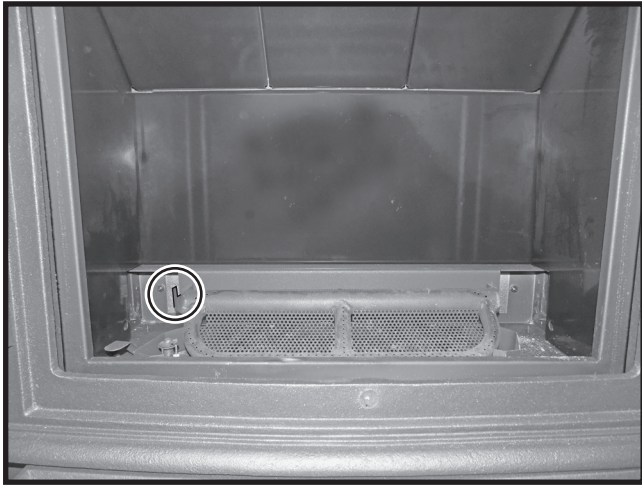

Figure 42: Burner with basket for embers. Tab located on left side of burner for #3 log placement.
1. Fill burner basket (Figure 42) with embers so that the basket is filled and overflowing the burner front row (Figure 43). Reserve a small amount of embers for final placement.
4. Position 3rd log as shown in (Figure 46) making sure that the log does not cover the holes of the back row of the burner. 3rd log has a hole in its underside which will fit onto a protruding tab on the burner (Figure 42) & Inset of tab.